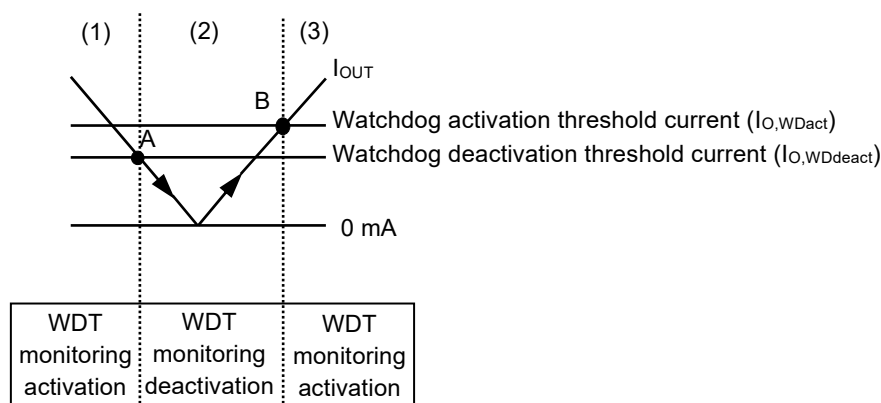

Figure 28 Autonomous Watchdog Operation Function
- (1) When I_{OUT} of the regulator is the watchdog activation threshold current ($I_{O,WDact}$) or more, the input voltage (V_{WDact}) of comparator (C1) is higher than the reference voltage (V_{ref}), and the output of C1 is "H". At this time, the watchdog timer activated.
- (2) When I_{OUT} decreases to the watchdog deactivation threshold current ($I_{O,WDdeact}$) (point A in **Figure 28**) or less, V_{WDact} decreases to V_{ref} or less and the output of C1 is "L". At this time, the watchdog timer deactivates the monitoring. Even if I_{OUT} increases, the watchdog timer continues the monitoring deactivation when I_{OUT} is within less than $I_{O,WDact}$
- (3) If I_{OUT} further increases to $I_{O,WDact}$ (point B in **Figure 28**) or more, V_{WDact} increases to V_{ref} or higher and the output of C1 is "H". And then, the watchdog timer initiates the monitoring activation.